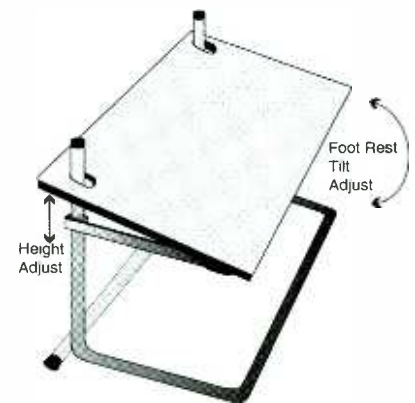

Figure 4. Adjustable height and tilt footrest maintains correct leg and foot positioning. (Courtesy of Fox Bay Industries.)
•**Feet:** The feet must be at a comfortable height to equalize pressure along the thighs. A short person needs a foot rest to accomplish this. A foot rest is normally level for both feet, easily adjustable in height and rake angle without tools or stooping to the floor. (See Figure 4.) For all users, a periodic movement of the foot support keeps back muscles in tone and allows the thighs to equalize pressure.